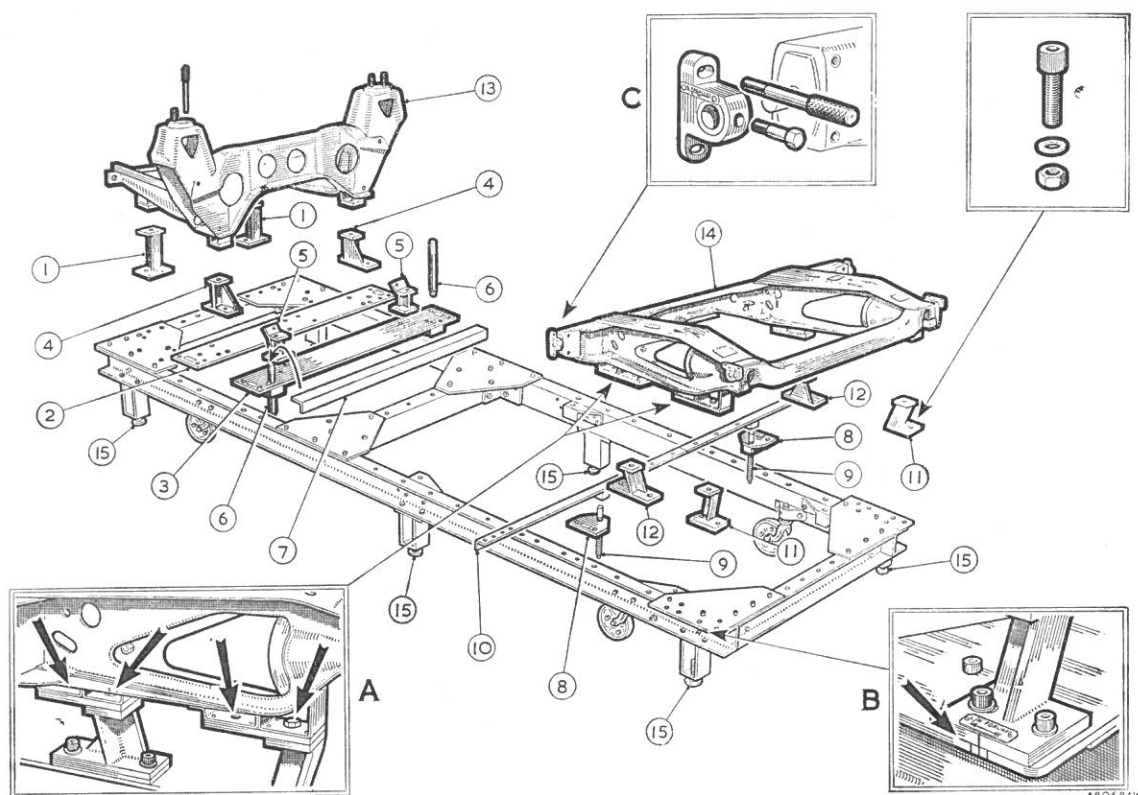

Fig. R.22
Where item numbers are quoted in the following, refer to Fig. R.22.
Tighten down the pedestal fixing bolts, and check the relative positions of the lines scribed on the outer edge of each rear pedestal and the lines scribed on either outer edge of the jig rear corner plates (10). The ideal position is when the lines on the pedestals coincide with the central lines on the corner plates (see inset [B], Fig. R.22). The